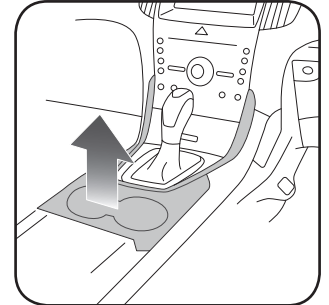

Fig. 1.2
2. Engage the parking brake, turn the ignition ON, and place the shifter in drive. Lift the upper center console trim panel, disconnect the two wiring harnesses, and remove the panel. (Fig. 1.2)